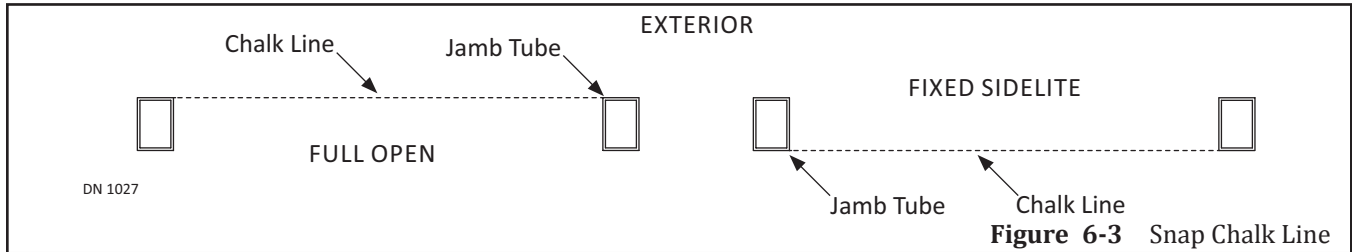

Figure 6-3 Snap Chalk Line
5. Snap a chalk line on the floor from Jamb to Jamb. Please see Figure 6-3: